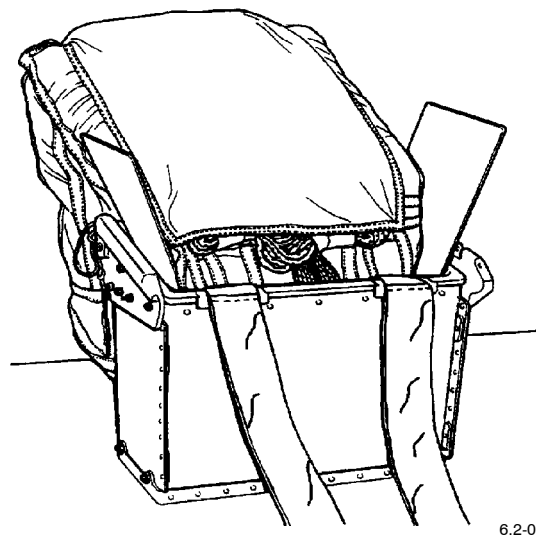

Figure 46. Deployment Sleeve Positioned in Container
a. Push the deployment sleeve down into the container as far as possible, locating the base of the sleeve in the bottom of the container (Figure 46 and 47).